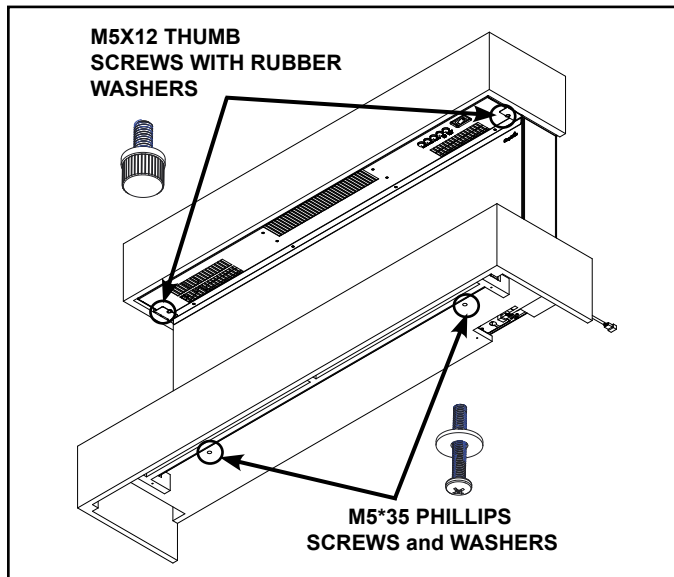

Figure 5
2. Fasten the bottom mantel section to the appliance with two M5*35 Phillips screws. See Figure 5.
- Secure the top mantel to the appliance using two (2) M5X12 thumb screws with rubber washers. See Figure 5.